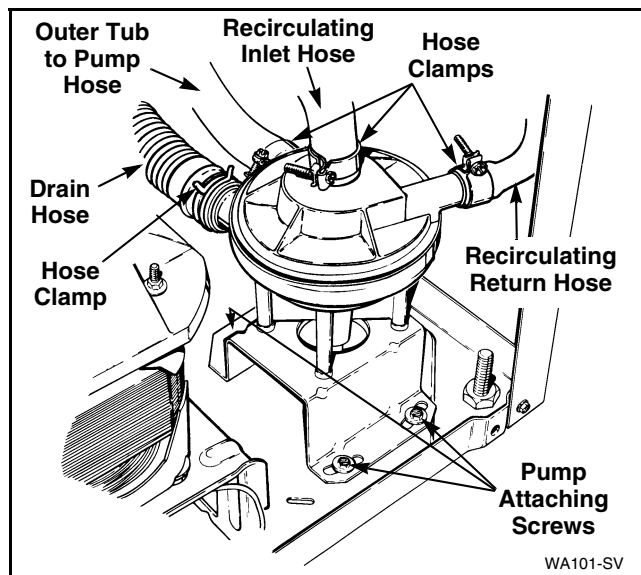

Figure 21
- Remove the two front mounting screws, and loosen the rear screw. Refer to *Figure 21*.
- Loosen hose clamps and remove all hoses from pump assembly. Refer to *Figure 21*.